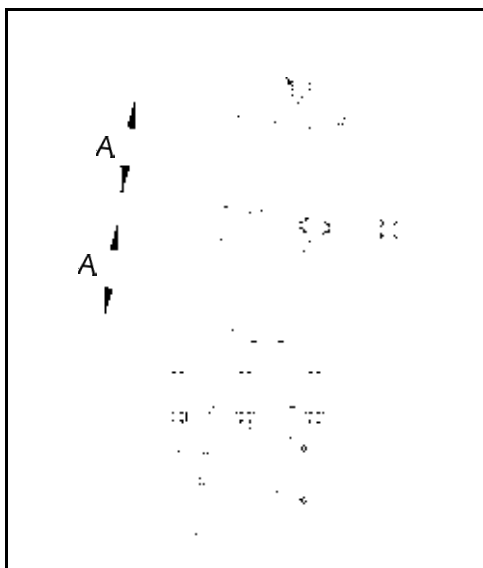
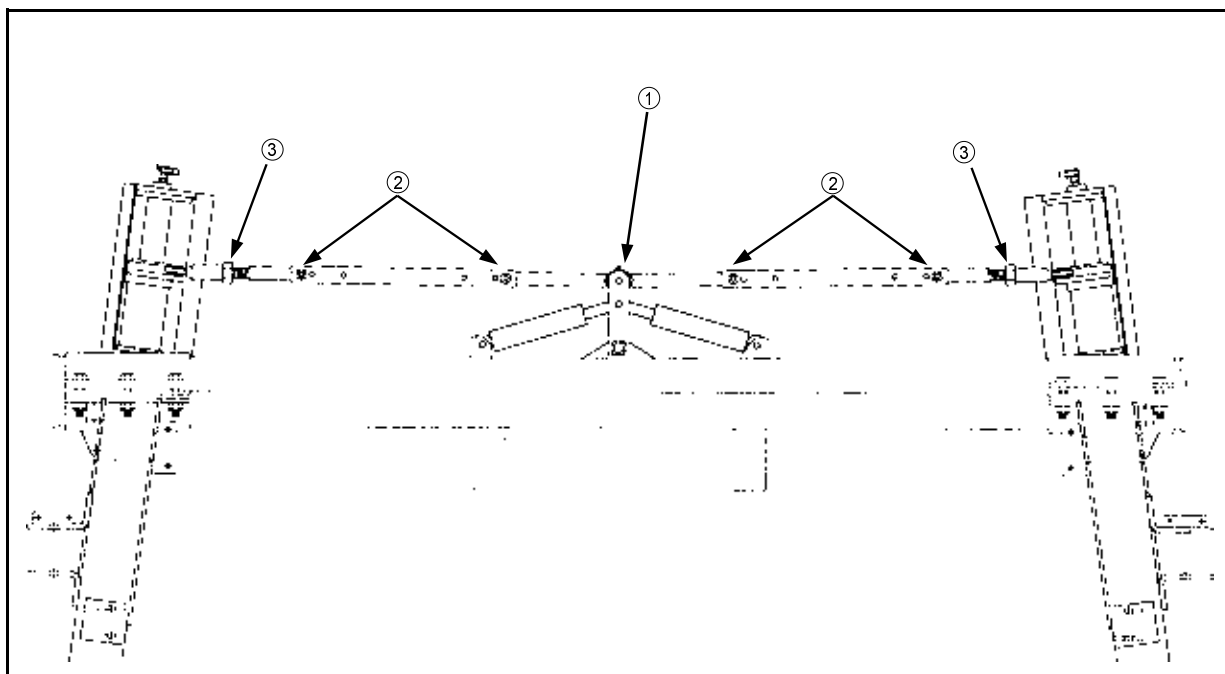

FIG 4.1
FIG 4.2
Dimension A (fig. 4.1) must be equal (see page 101) and steering pivot must be in vertical position (fig. 4.2, item 1).
2. Loosen tie rod bolts (fig 4.2, item 2) and tie rod jam nuts (fig. 4.2, item 3). Remove the bolts and nuts from the tie rod.